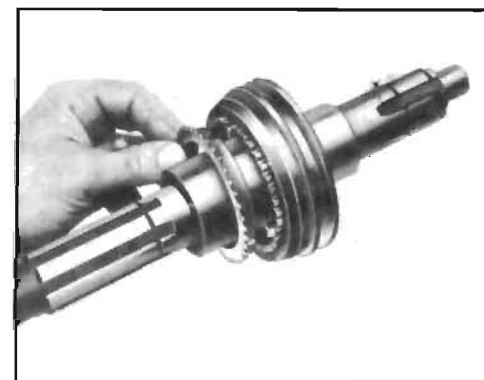

Figure 4-56—Installing Synchronizing
2. Install the first speed gear synchronizing ring so the notches in the ring correspond to the keys in the hub. See Figure 4-56.